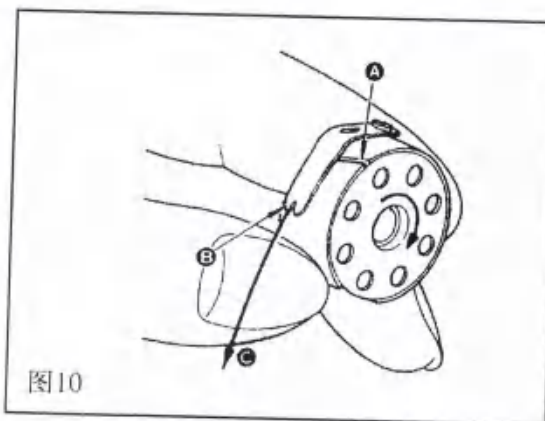

图10
- 2) loosen screw ②, and hold needle ① with its indented part A facing exactly to the right in direction B.
- 4) Securely tighten screw ②.
8. 梭心的装法(图10) SETTING THE BOBBIN INTO THE BOBBIN CASE (FIG.10)